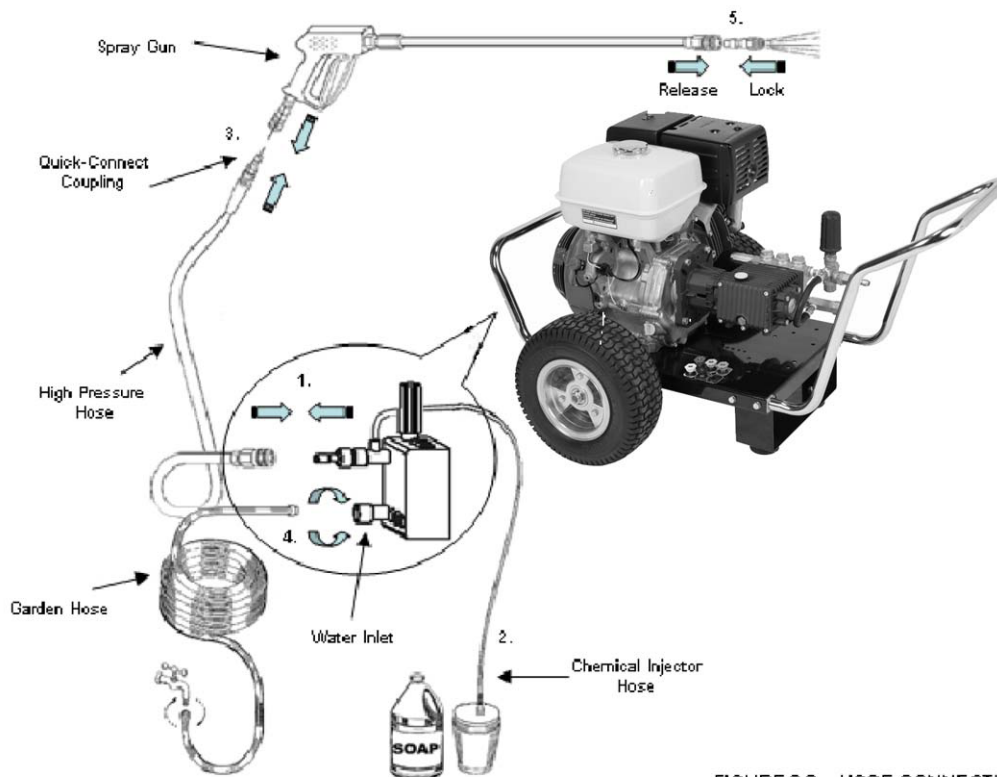

FIGURE 2.2 – HOSE CONNECTIONS
3. Connect cleaning nozzle, chemical injector control nozzle, or accessory nozzle or attachment to gunvalve extension quick coupler (Fig. 2.2).